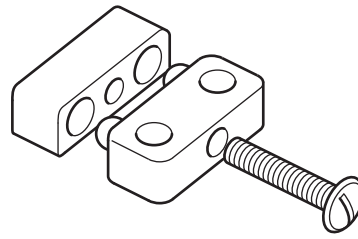

Fig. 7.1
7 Fig. 7.1 shows a knock-down (KD) fitting.
(a) Name the type of knock-down (KD) fitting shown in Fig. 7.1.